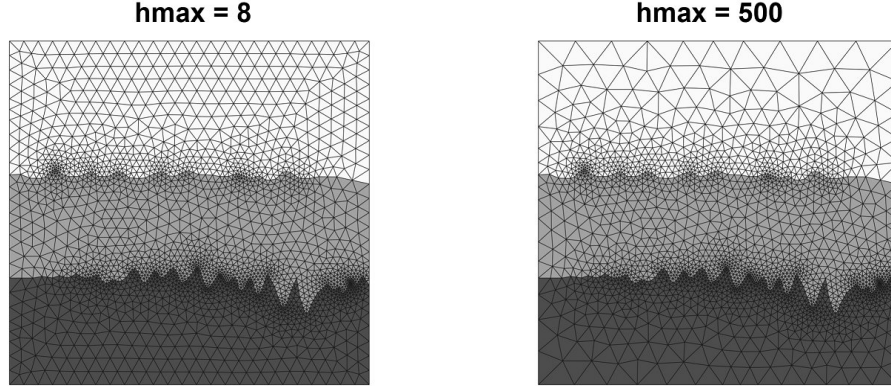

Figure 10: Effect of *Max Mesh-size*
- *Max Mesh-size*: Maximum mesh edge lengths. This is an approximate upper bound on the mesh edge lengths (Figure 10). Type: Float. Range: > 0 .